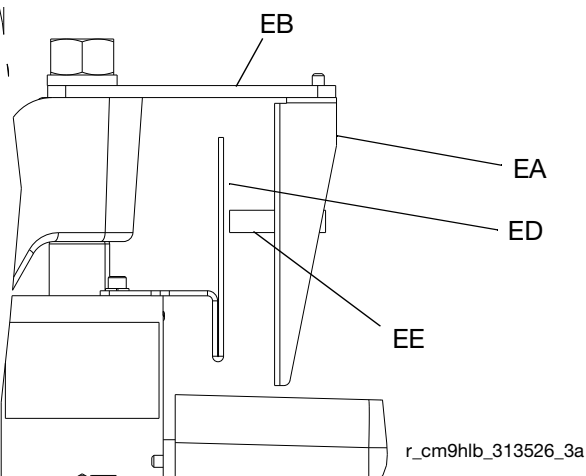

FIG. 10
- c. For S20 supply systems: Attach the actuator (ED) to the ram cylinder endcap, so the sensor (EE) passes in front of the bracket (ED) at the correct level for drum low or drum empty. See FIG. 10.